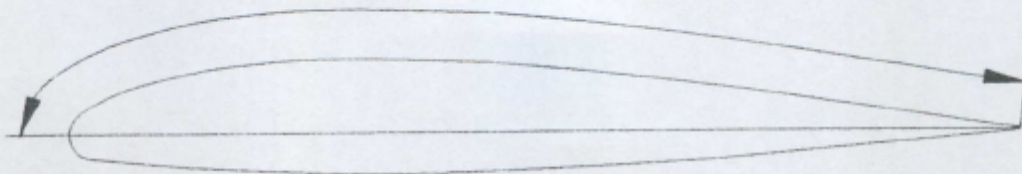
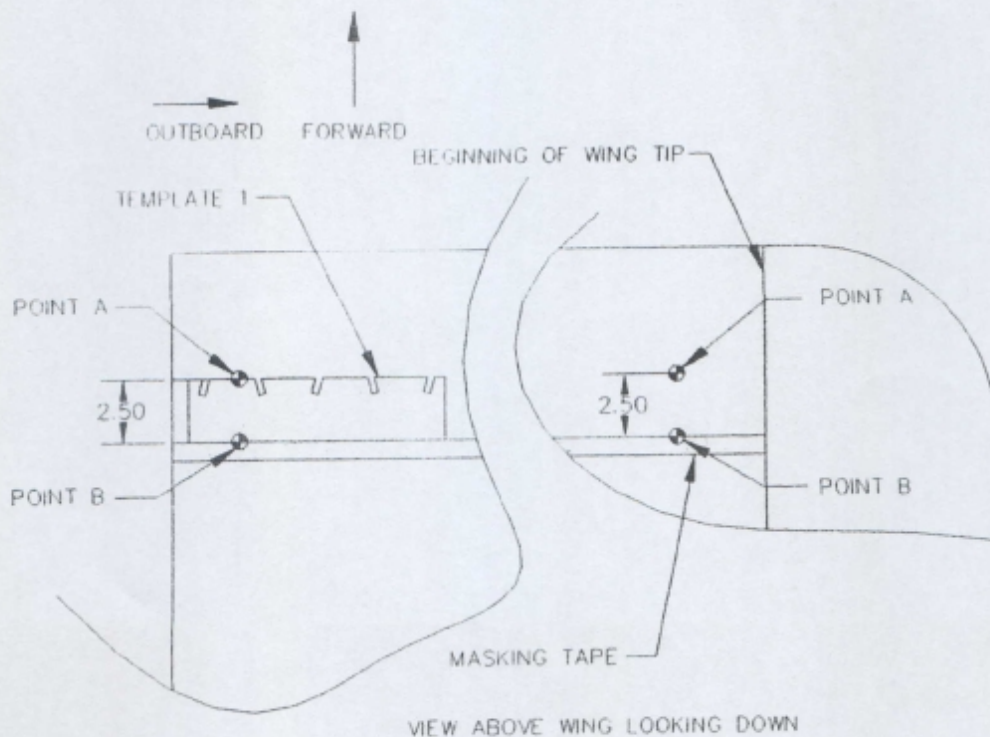

FIG. 1
FIG. 2
- 2.1 Measure the wing chord with a tape measure by starting the measurement from the trailing edge of the wing to the leading edge of the wing along the wing contour upper surface as shown in figure 1. Take that measurement and multiply it by .90. That will give you the distance along the contour of the upper surface of the wing to the leading edge of the vortex generator's position from the trailing edge of the wing. Mark that location at the wing root and near the wing tip with a felt tip pen (Sharpie extra fine point) let's call those two points A. Measure back from those locations 2.5" and mark a new positions at the wing root and near the wing tip with a felt tip pen let's call those two points B. Apply masking tape from the wing root point B to near the wing tip point B in a straight line and with the upstream edge of the masking tape adjacent to the two point B's. This masking tape will be used as a straight edge guide. See figure 2 on page 2 of 6.
- 2.4 Tape the template adjacent to the masking tape and at the wing root as shown in figure 2. Stick the vortex generators to the wing by removing the backing liner paper and placing them in the five template notches making sure that the vortex generators are correctly facing forward as shown in figure 3. Move the template over so that the first template notch lines up with the last vortex generator attached to the wing. Attach four more vortex generators to the wing. Continue repeating this operation until all the vortex generators are placed on the wing panel. Then repeat this procedure for the other wing panel. Remove the masking tape when completed.
Measure the chord as shown in figure 1 at the root and tip of the wing as the distance the vortex generators must retain the same .90 distance for whatever the chord length happens to be.